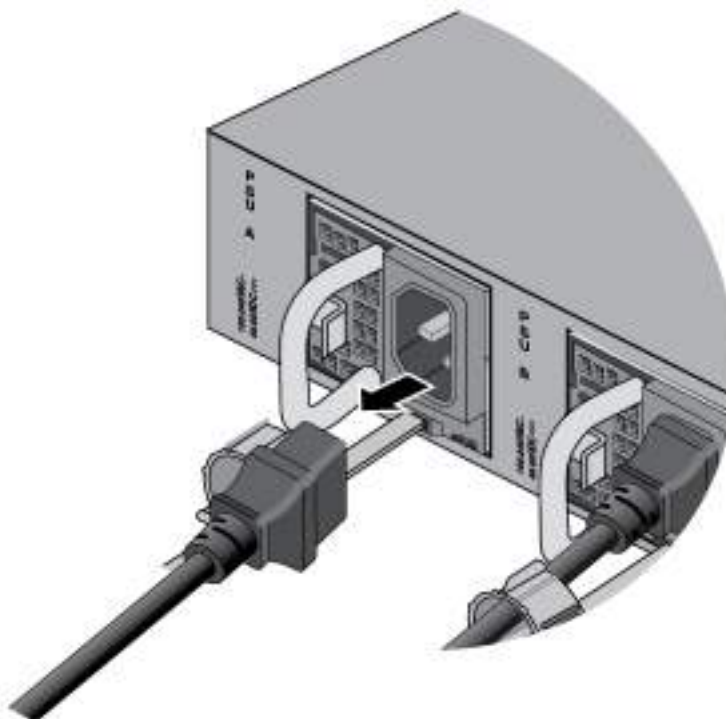

Figure 130. Disconnecting the Power Cord from the Power Supply
3. Disconnect the power cord from the power supply. Refer to Figure 130.